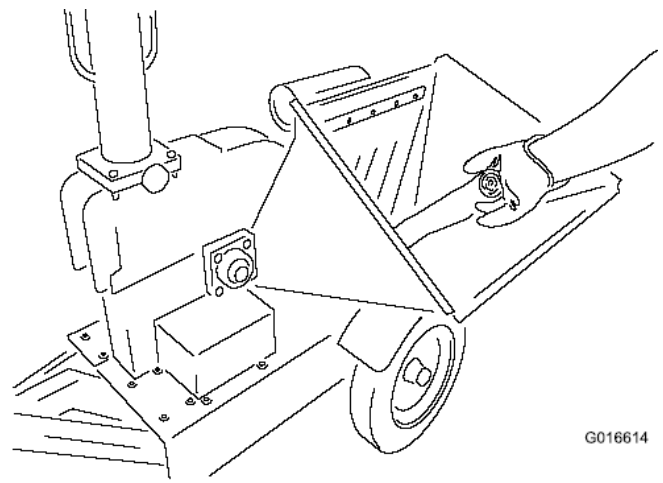

Figure 16
- If you jam the machine and do not stop the engine, it can damage the machine (Figure 16). For this reason, it is important that you immediately stop the engine if the machine becomes jammed, wait five minutes to make certain the flywheel and all moving parts have come to a complete stop and cool. Disconnect the spark plug wires, keeping them away from the spark plugs to prevent accidental starting.